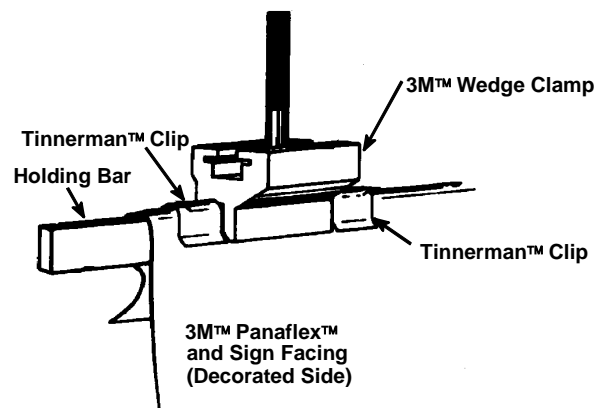

Figure 13. Installing Tinnerman™ Clips
- Place a Tinnerman™ clips over the sign face and holding bar on each side of the wedge clamp. See Figure 13.